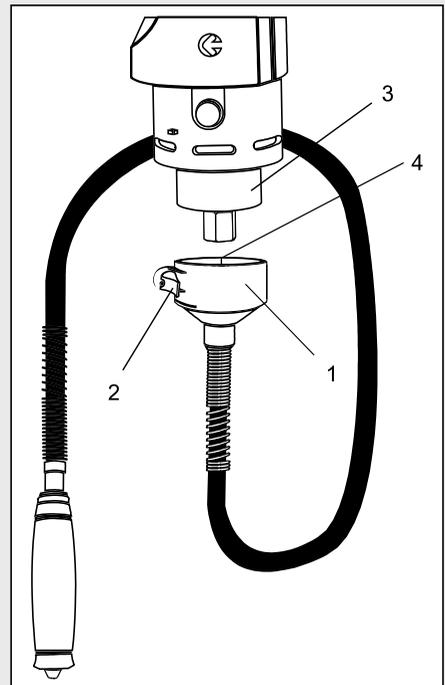

Fig. 25
3. Open the flexible shaft mounting collar (1) by pulling the quick release lever (2) outward (Fig. 25).
4. Align the flexible shaft mounting collar with the motor housing (3).